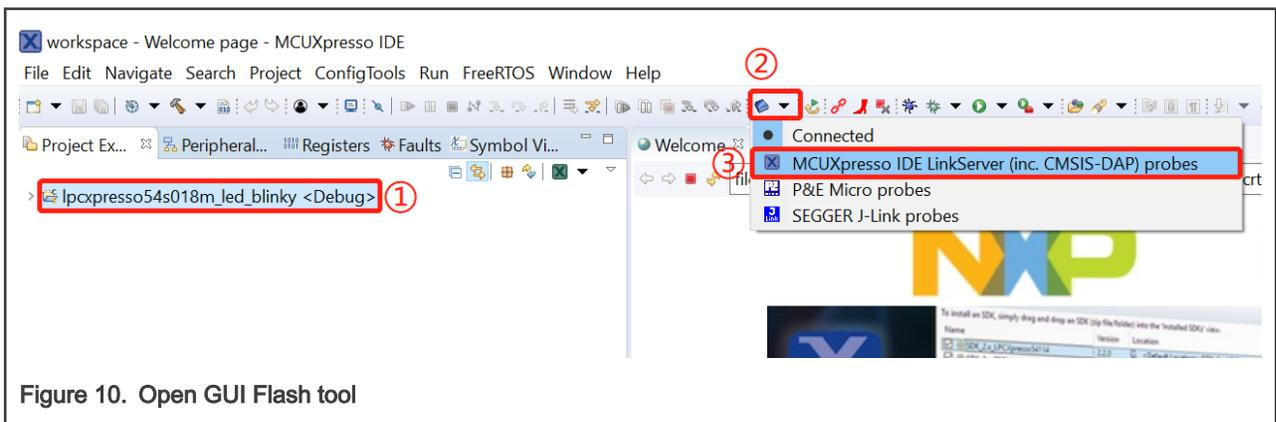

Figure 10. Open GUI Flash tool
2. Open MCUXpresso IDE LinkServer (inc.CMSIS-DAP) probes by clicking the button in the order as shown in Figure 10.